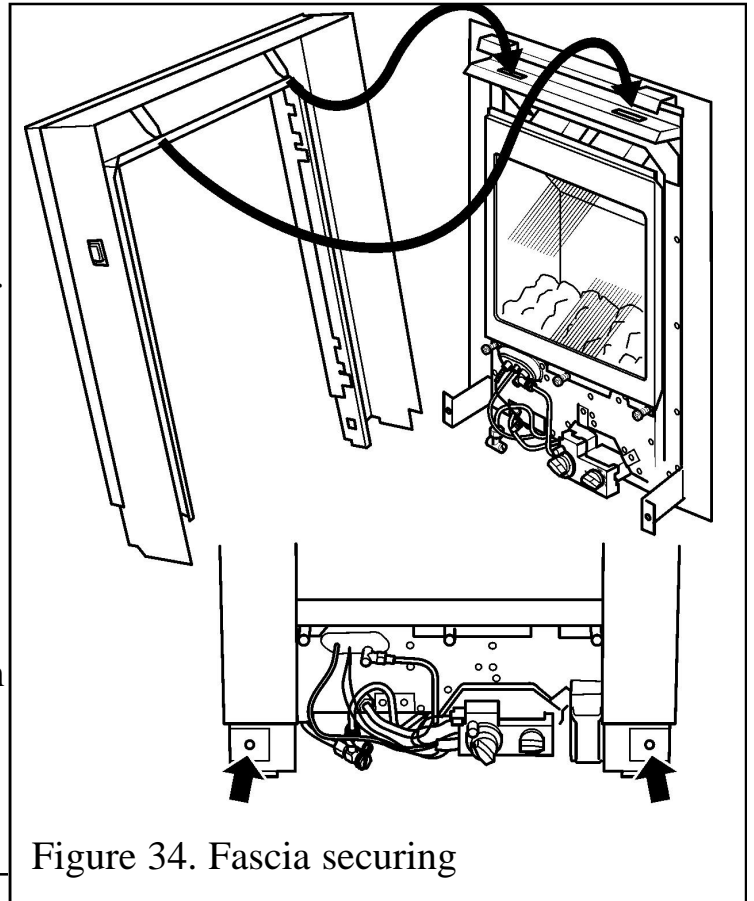

Figure 34. Fascia securing
- Locate the two lugs at the top of the fascia in the slots in the convection box hood. Swing the bottom of the fascia sides back against the convection box and lower the fascia so that the lugs are fully seated in the slots in the convection box hood (See figure 34).
- Secure the bottom of the fascia sides to the convection box side brackets using the two screws supplied (See figure 34).